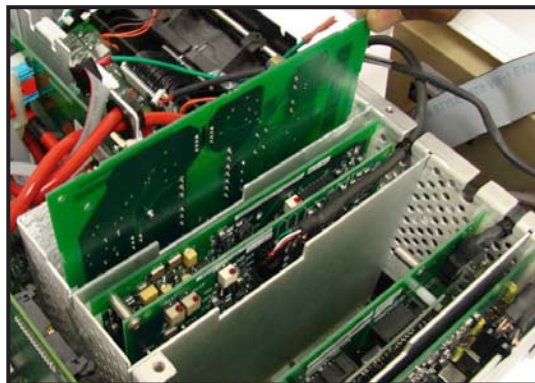

Figure 6-36
5. Pull up the isolated power supply board to release it from the front-end motherboard (See Figure 6-36).